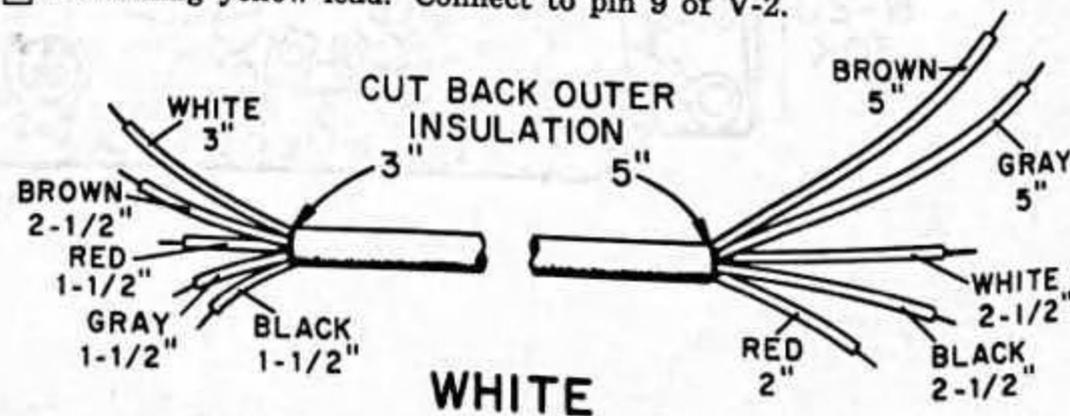

FIGURE 4. PREPARING THE WHITE CABLE
- White 5-conductor cable. Remove the outer insulation on each end back to the lengths shown on Figure 4. Be careful not to cut through into the inner wires. Cut the wire ends to the lengths shown. Remove $\frac{1}{4}$ " of insulation from the end of each wire and lightly coat the wire ends with solder.